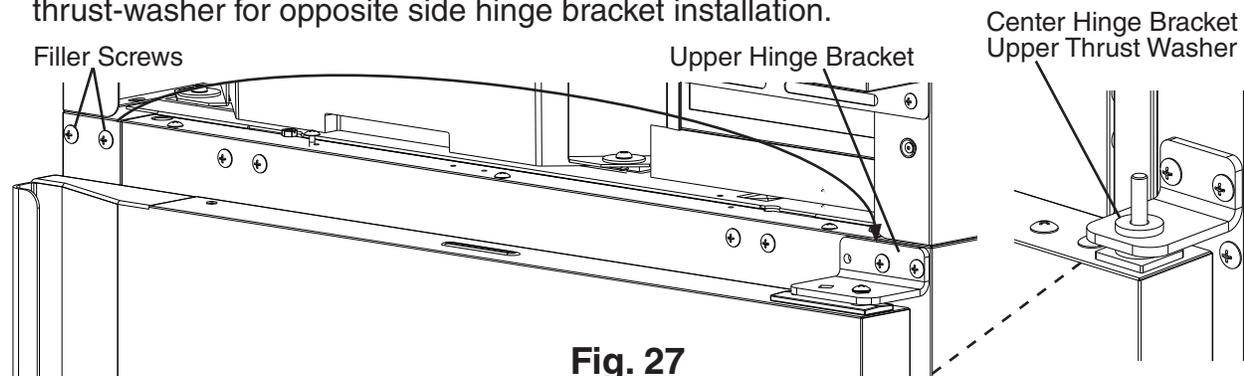

Fig. 27
- 3) While maintaining a hold on the upper door, remove the upper hinge bracket then lift the door off the center hinge bracket. See Fig. 27. Retain the upper center hinge bracket thrust-washer for opposite side hinge bracket installation.